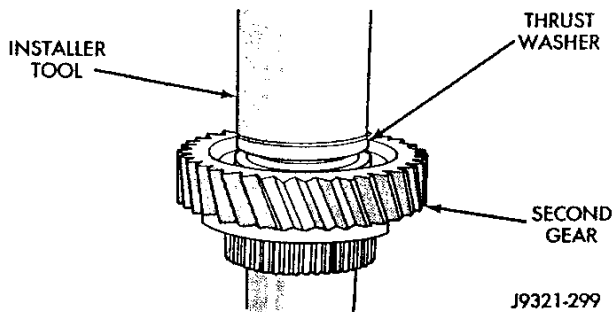

Fig. 37 Second Gear Thrust Washer Installation
(4) Install second gear thrust washer on output shaft (Fig. 37). Washer is tight fit on shaft. Heat washer in oven or use suitable tool to seat washer on shaft. If washer is heated to ease installation, heat washer for no more than 5 minutes at 200°F.